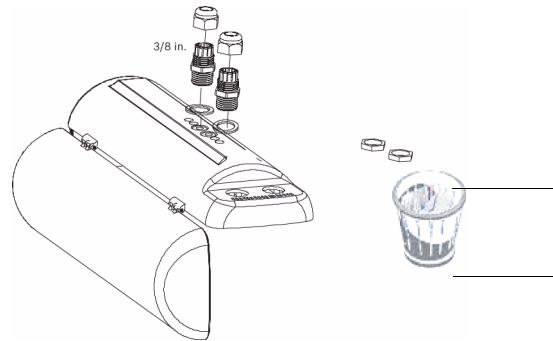

Fig. 5.5 Attaching the 3/8 in. NPT Fittings
Attach the two (2) 3/8 in. NPT fittings (discard the screw nut) with the rubber washer on the outside of the housing directly to the bottom openings (see *Figure 5.5* on page 6).